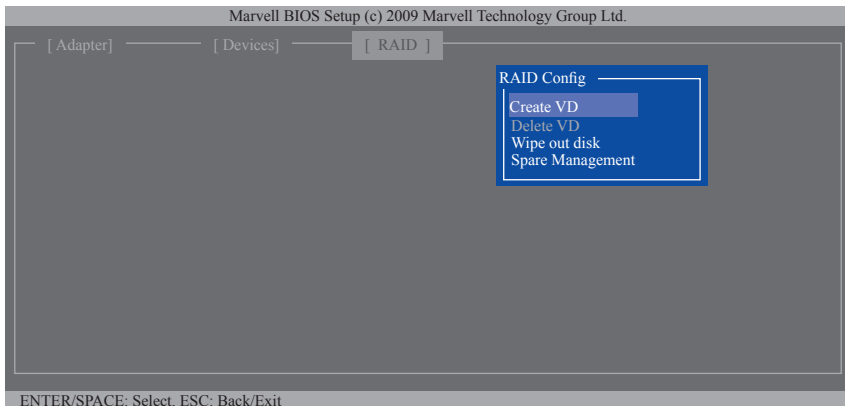

Figure 5
Step 1: On the main screen, press <Enter> on the RAID tab. Then the RAID Config menu appears (Figure 5). Press <Enter> on the **Create VD** item.